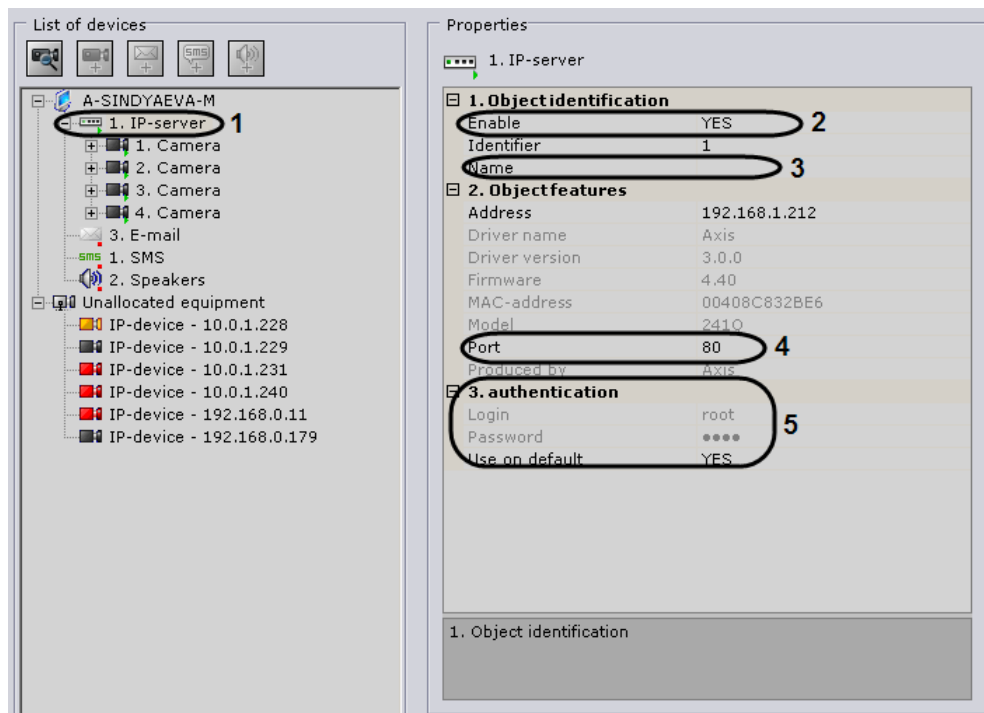

Fig. 6.3—10 Configuring an IP server object
2. Select **Yes** from the list in the **Enable** field to enable the object (Fig. 6.3—10, 2).
3. Enter the name of the IP server into the **Name** field (Fig. 6.3—10, 3).